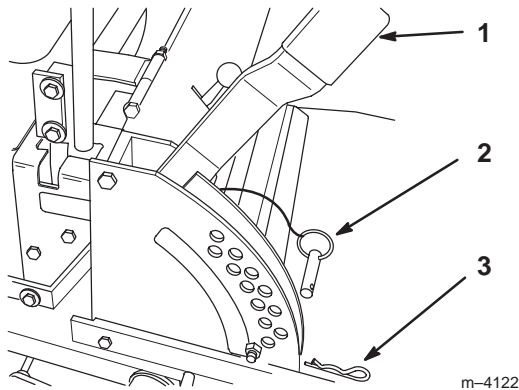

Figure 18
1. Raise the height-of-cut lever to the transport position (also the 4-1/2 inch (114 mm) cutting height position) (Fig. 18).
2. To adjust, remove hairpin cotter and clevis pin from height-of-cut bracket (Fig. 18).
3. Select hole in height-of-cut bracket corresponding to the height-of-cut desired, and insert clevis pin (Fig. 18).
4. Secure clevis pin with hairpin cotter (Fig. 18).